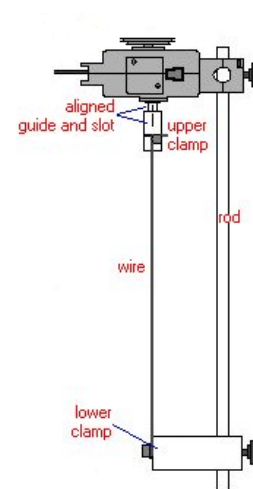

Figure 3: Setup
3. Adjust the Rotary Motion Sensor on the support rod such that the guide on the upper clamp is aligned with the slot on the shaft of the Rotary Motion Sensor. See Figure 3.
4. Adjust the height of the set up so that the upper clamp is approximately half way up the shaft of the Rotary Motion Sensor (see Figure 3). NOTE: When switching to a new diameter wire, try to keep the length of the wires, from clamp to clamp, relatively constant.